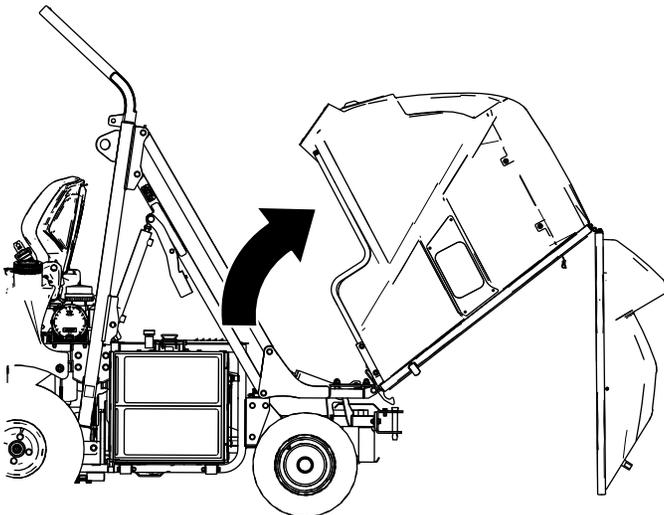

Figure 51
2. Pivot the hopper up and back (Figure 51) by hand.